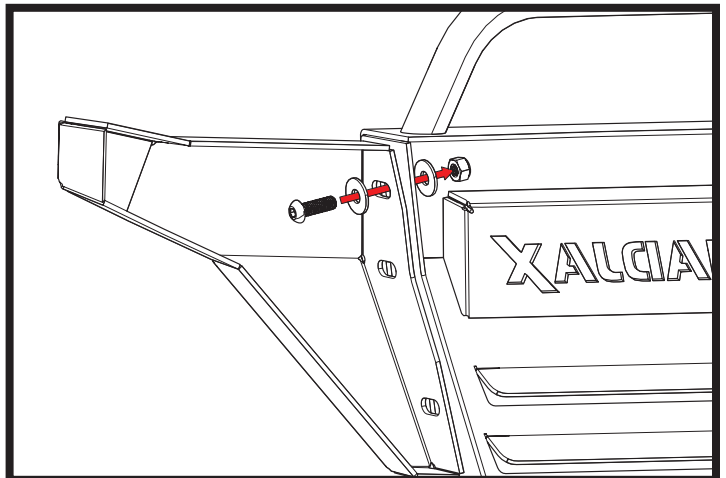

Fig. 9
Assemble one of the side brackets to the center section of the brushguard using one (1) m8 button head bolt, one (1) m8 nut, and two (2) m8 washers in the top hole. See Fig. 9. Position the side bracket as desired in relation to the center section and tighten this bolt to 28.8Nm (21.3 lb-ft). The bottom two holes will be used when assembling to the mounting arms. Repeat with the other side bracket.